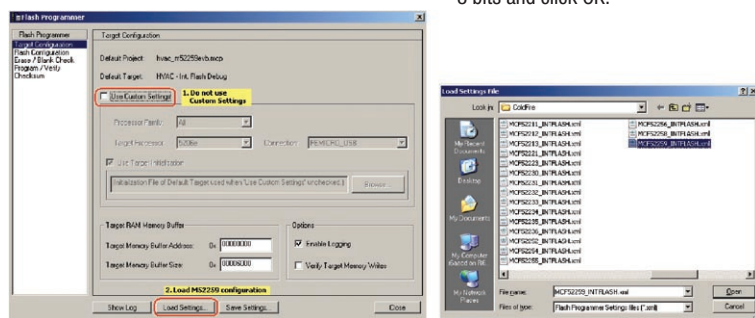

Figure 4: Opening flash programmer tool
9. Open the “Flash Programmer” tool in the **Tools** menu. Make sure the “Use Custom Settings” checkbox is not selected (i.e. the configuration will be taken from the project). See Figure 4 below.